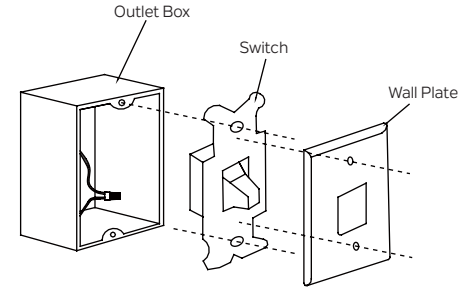

Fig. 24
Step 1. Remove the existing wall plate and the old switch from the wall outlet box. Wire the BLACK leads (hot) together with connector and push back inside the outlet box. (Fig. 24)